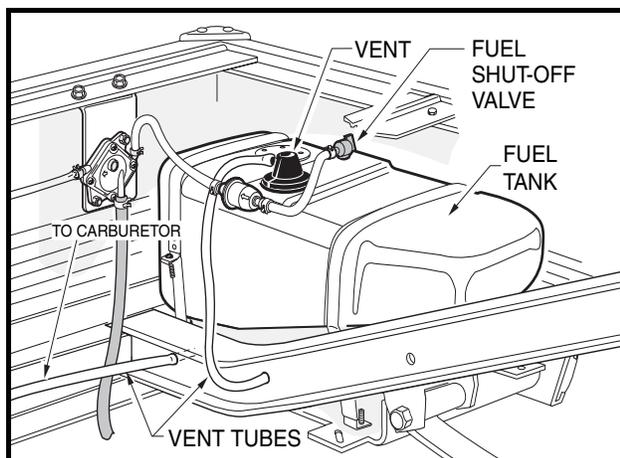

Figure 30 Fuel Tank
- If the vehicle has an all-weather enclosure installed, be sure the fuel tank is properly vented as shown (Figure 30).